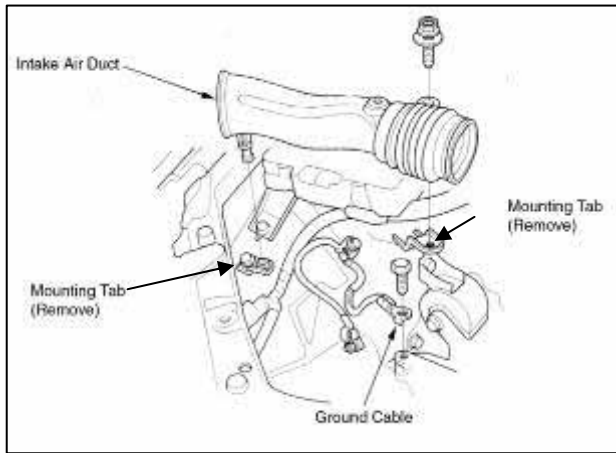

Fig. 3
- Remove the intake air duct by loosening the bolt at one end and then pulling the other end up out of the mounting tab. **(Fig. 3)**
- Remove the two intake air duct mounting tabs from the fenderwell. **(Fig.3)**